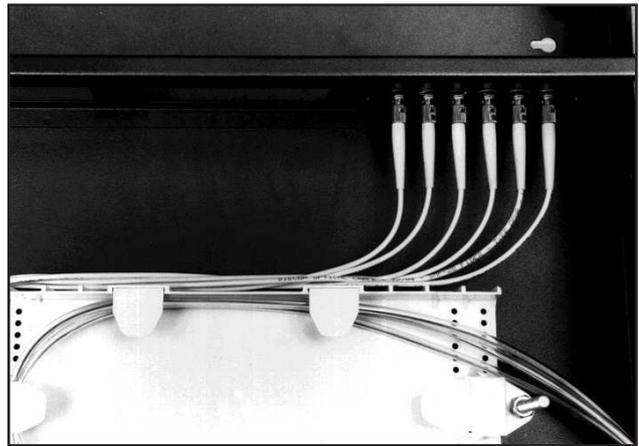

FIGURE 5 - ROUTE THE PIGTAILS
7.04 Route the pigtails along the Transition Assembly toward the right side of the cabinet, while maintaining a smooth bending radius behind the Coupler Plates. (Figure 5)